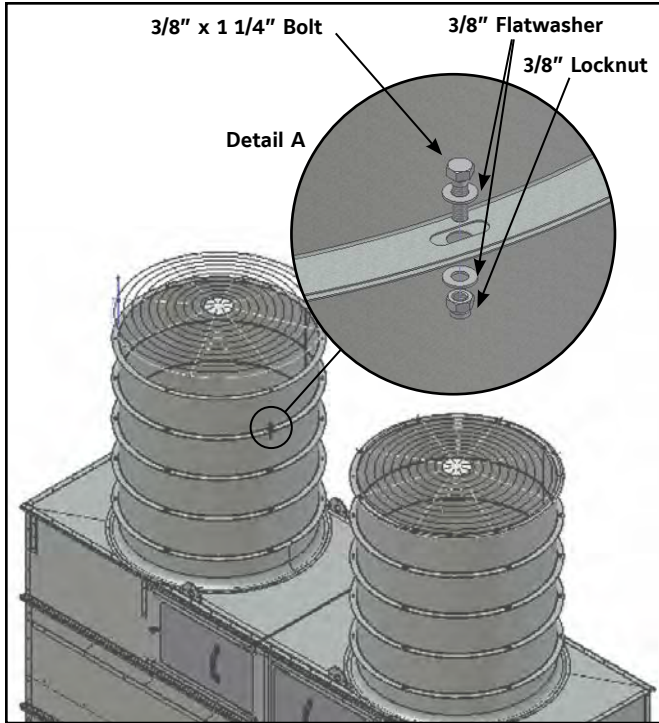

Figure 16 – Fan Cowl Extensions
1. Fasten the fan cowl extensions through the large diameter pre-punched holes using the provided hardware as shown in Figure 16, Detail A.